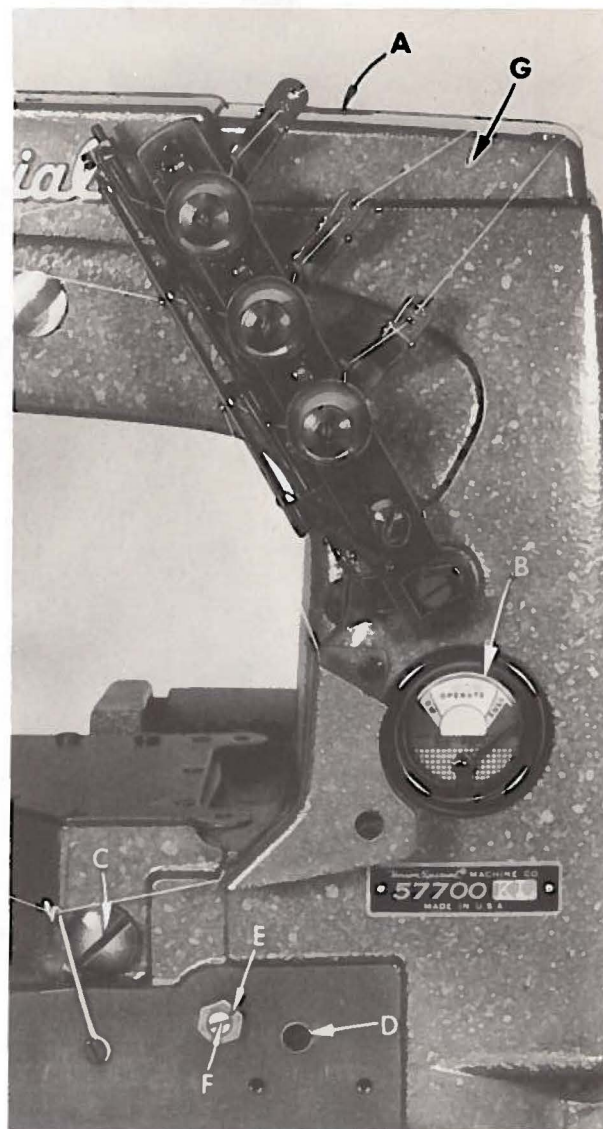

Fig. 2
Use a straight mineral oil of a Saybolt viscosity of 90 to 125 seconds at 100° Fahrenheit in the main reservoir. This is equivalent to Union Special specification No. 175. Fill main reservoir at plug screw in upper crank chamber cover (A, Fig. 2) and check oil level at gauge (B). Oil is at maximum level when needle is in yellow band marked "Full". Oil should be added when needle is in yellow band marked "Low".
Oil may be drained from main reservoir by removing plug screw (C, Fig. 2) located below the cloth plate at front of the machine.
2. Remove the oil reservoir plug screw (C, Fig. 2) and tip machine forward to drain oil from the reservoir.
5. Fill main reservoir to a level even with the bottom contour of the knee press shaft bushing (D, Fig. 2).
6. Loosen lock nut (E) on calibrating screw (F), and turn the screw to the left or right until the gauge needle rests in the middle of the yellow band marked "LOW".
7. Tighten lock nut (E) and replace plug screw (C).